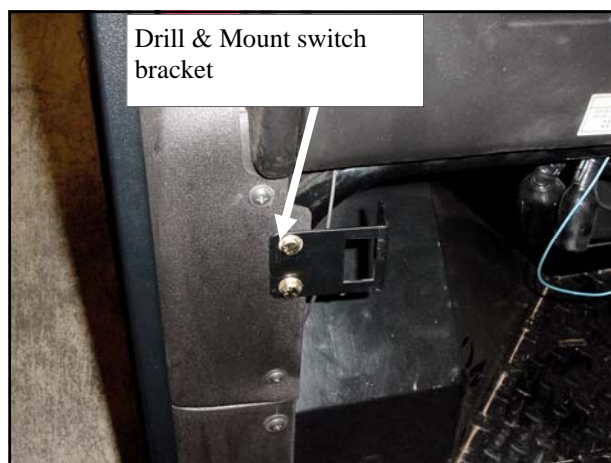

Fig. 3.2 — Switch bracket Installation.
- 3.2 Per figure 3.2, position the supplied switch bracket against the top of the driver's side fender. Drill two 5/16" holes using the holes in the switch bracket as a guide. Mount with supplied 1/4-20 hardware.